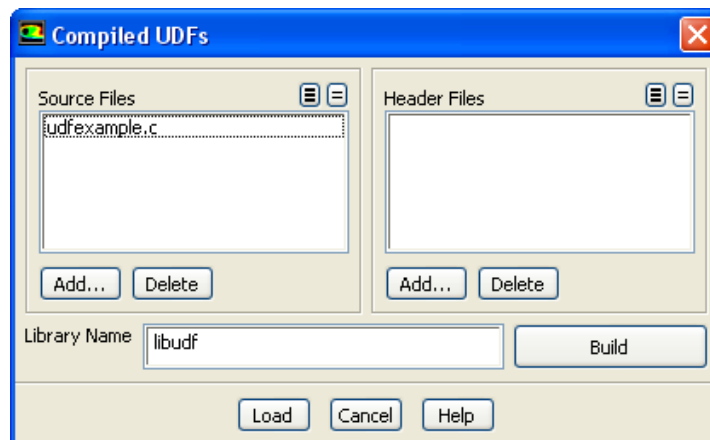

Figure 5.2.3: The Compiled UDFs Dialog Box
The **Select File** dialog box will close and the file you selected (e.g., `udfexample.c`) will appear in the **Source Files** list in the **Compiled UDFs** dialog box (Figure 5.2.3). You can delete a file after adding it by selecting the source file and then clicking **Delete** in the **Compiled UDFs** dialog box.
8. In the **Compiled UDFs** dialog box (Figure 5.2.3), enter the name of the shared library you want to build in the **Library Name** field (or leave the default name `libudf`), and click **Build**. All of the UDFs that are contained within each C source file you selected will be compiled and the build files will be stored in the shared library you specified (e.g., `libudf`).
9. In the **Compiled UDFs** dialog box (Figure 5.2.3), load the shared library that was just built into ANSYS FLUENT by clicking **Load**.